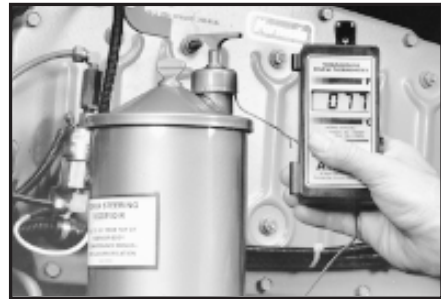

Figure 6.1
1. Install temperature gauge in reservoir. *Figure 6.1*. Install PSSA in pressure line with shut-off valve fully open. *Figure 6.2*.